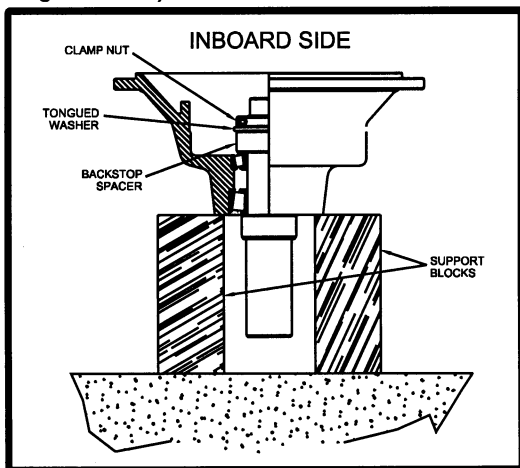

Figure 6.3.2.1 Endbell Disassembly
3. Support hub to expose the inboard side of the endbell (reference Figure 6.3.2.1).